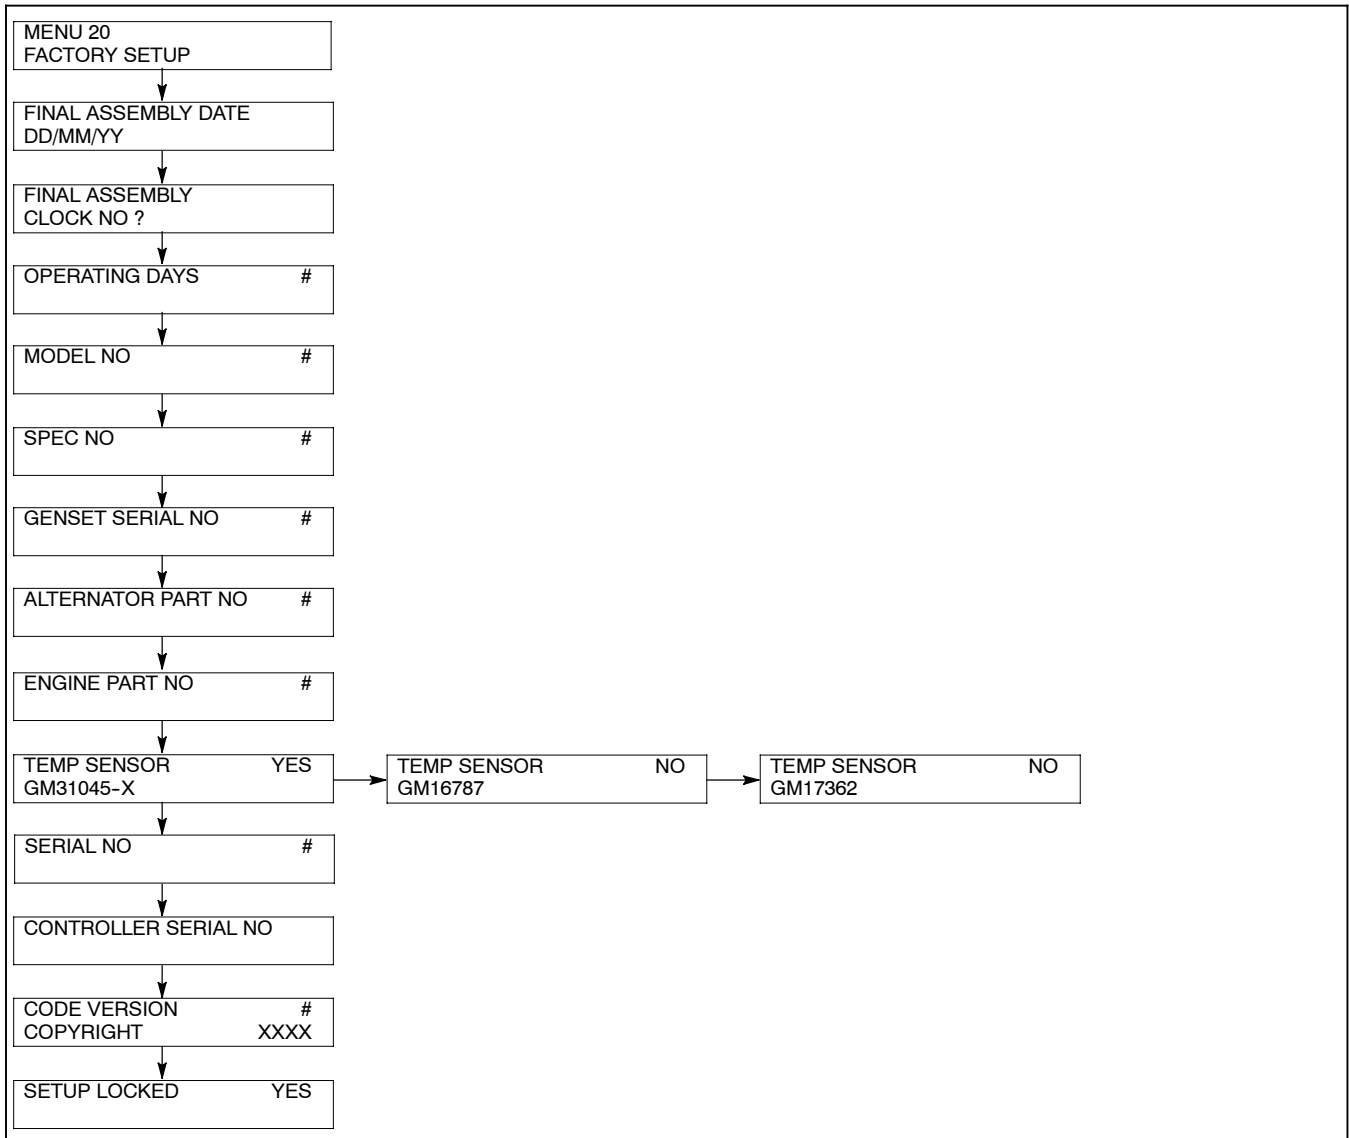

Figure 5-12 Menu 20, Factory Setup
- a. Go to Menu 20, Factory Setup. The menu can remain locked when changing the sensor selection. See Figure 5-12.